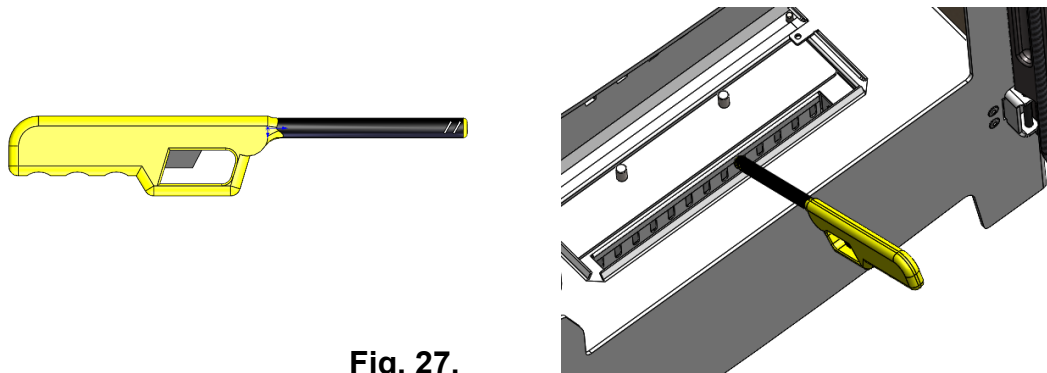

Fig. 27.
- Using a long match or we recommend a long reach gas lighter, ignite the burner. See Fig. 27.